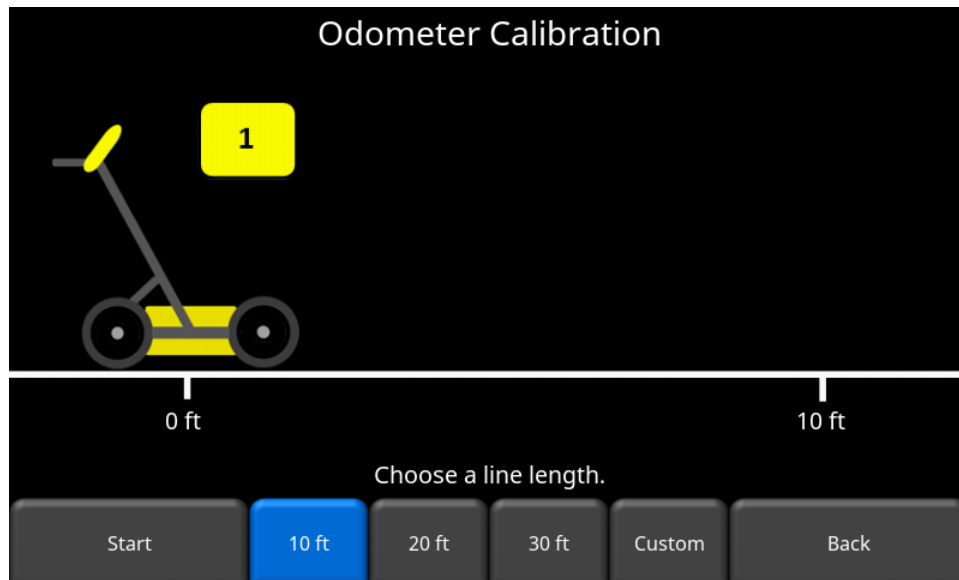

Figure 4-20: Odometer Calibration – select a distance and then press Start
- **Odometer Calibration** - This option actually calibrates the odometer (Figure 4-20). Choose a set distance from the screen, or select Custom. Then press **Start** and then move the system that exact distance, using a measuring tape or other known distance indicator. Press **Finish** when you have travelled that distance